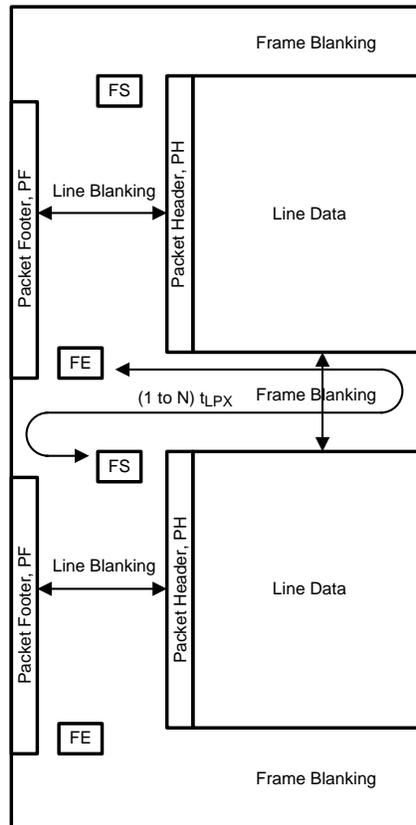

Figure 11. General Frame Format
The DS90UR910-Q1 (in default mode) takes the RGB data bits R[7:0], G[7:0] and B[7:0] defined in the 24-bit serializer pinout and directly maps to the RGB888 color space in the data frame. The DS90UR910-Q1 follows the General Frame Format as described in Figure 49 of the CSI-2 standard (repeated here in Figure 11). Upon the end of the vertical sync pulse (VS), the DS90UR910-Q1 generates the Frame End and Frame Start synchronization packets within the vertical blanking period. The timing of the Frame Start will not reflect the timing of the VS signal.